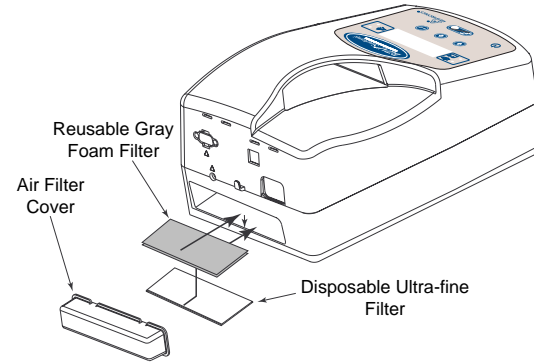

Figure 4-1 Filters Installed
- STEP 2** Push the filters down into the air inlet recess at the rear of the Synchrony as shown in Figure 4-1.